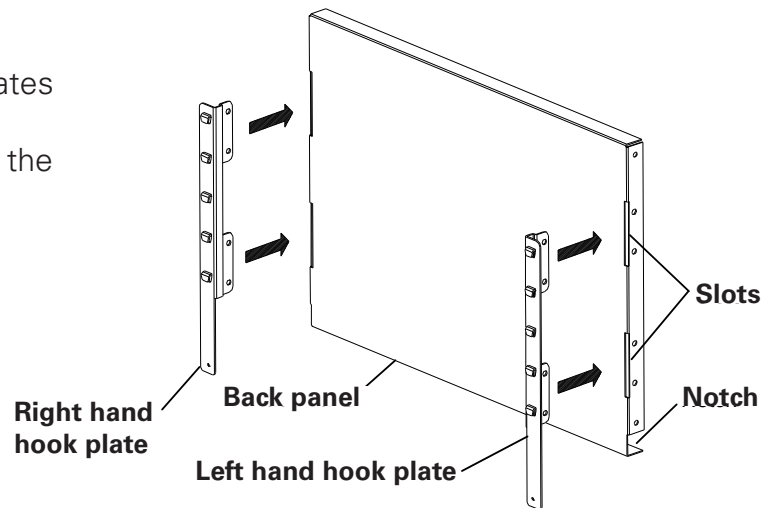

Figure 1 (16" H Compartment)
1. Insert the Left Hand and Right Hand Hook Plates into the slots in the rear of the Back Panel as shown in figures 1 and 2. Be sure to position the panel with the notches at the bottom.